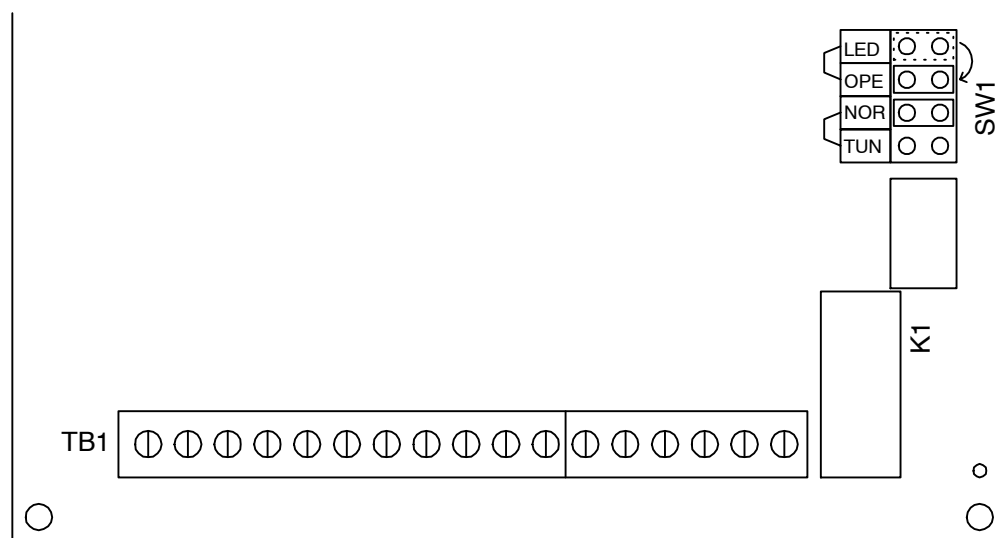

Fig. A-1 Changing the Location of the Shunt Connector
- ① Turn the power supply OFF and wait at least five minutes.
- ② Remove the front cover.
- ③ Remove the shunt connector, SW1, from “LED” and reinsert it in “OPE.” Refer to Fig. A-1.
- ④ Replace the front cover.
- ⑤ Mount the digital operator.